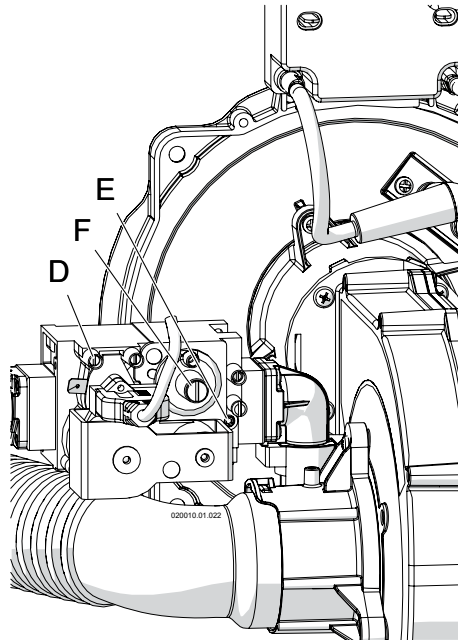

Figure 14-6 Gas valve
6. After verifying the correct gas pressures disconnect the manometer, turn the screw in pressure connection "D" in Figure 14-6, clockwise until snug and check for any gas leaks.
- 14 - turn completely counter clockwise the screw "E" of Figure 14-6;